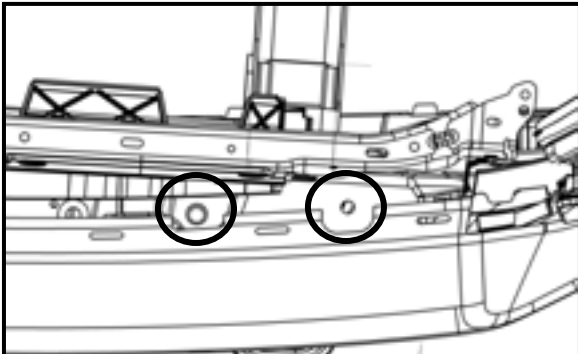

Fig. 7
9. Remove 4 upper bumper bolts attaching the bumper to the frame and remove 2 bottom bolts attaching bumper arm to the frame. See **Figure 7 & 8**.